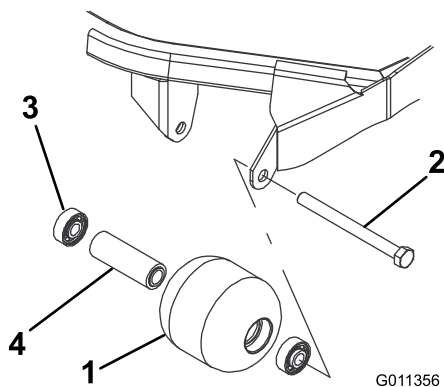

Figure 66
1. Remove the roller-mounting bolt (Figure 66).
4. Inspect the roller housing, bearings, and bearing spacer for damage (Figure 66).
1. Press the first bearing into the roller housing (Figure 66). Press on the outer race only or equally on the inner and outer race.
2. Insert the spacer (Figure 66).
3. Press the second bearing into the roller housing (Figure 66). Pressing equally on the inner and outer race until the inner race comes in contact with the spacer.